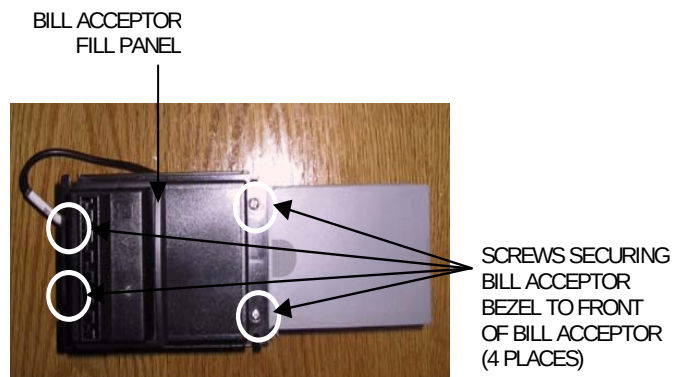
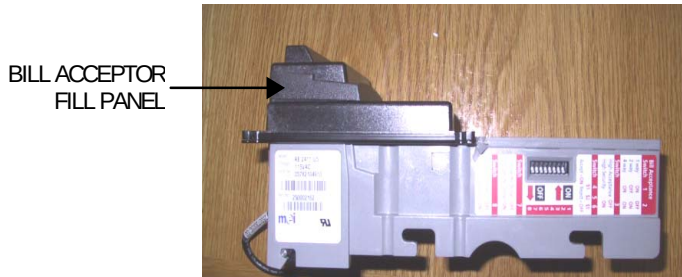

FIGURE 9 - FRONT VIEW OF BILL ACCEPTOR
FIGURE 10 - SIDE VIEW OF BILL ACCEPTOR
11. Remove the bill acceptor fill panel from the bill acceptor bezel. Remove the 4 screws securing the bill acceptor bezel to the front of the bill acceptor. Screws are located above and beneath the acceptor. Remove the bezel and the metal mounting plate underneath. See Figures 9 and 10.
2. Line up the bezel's mounting plate on the front of the new bill acceptor; see Figure 11 for proper orientation. Line up the bezel on top of the mounting plate and secure to the bill acceptor with 4 screws (see Figure 9). Replace the bill acceptor fill panel on the bezel as shown in Figure 10.